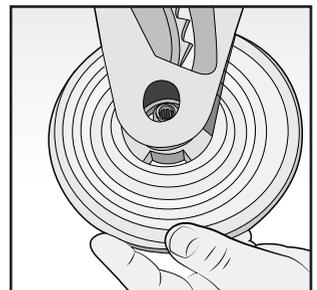
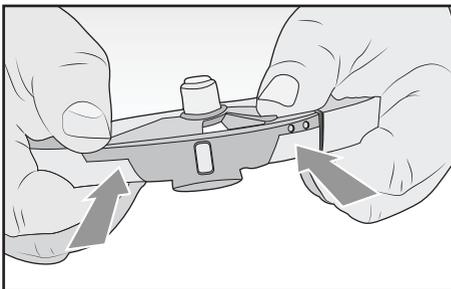
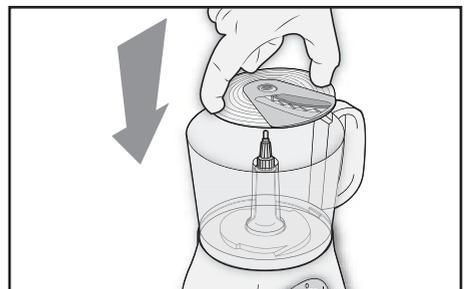

Fig. 7
Fig. 7a
Fig. 8
insert the dedicated accessory , slicing blade (M), julienne knife (L) or blade for sticks (N) on the blade holder disc (I). The pivot of the blade holder disc must be inderted in the central hole of the blade (Fig. 7). Press the blade on the blade holder disc (Fig. 7a). Install the blade holder disc with the blade on the drive shaft (C). The blade must be facing upwards (Fig. 8).
- 1 Remove the blade support (D). Put the blade holder disk with the blade on the drive shaft (C). The blade must be positioned upwards (Fig. 8).